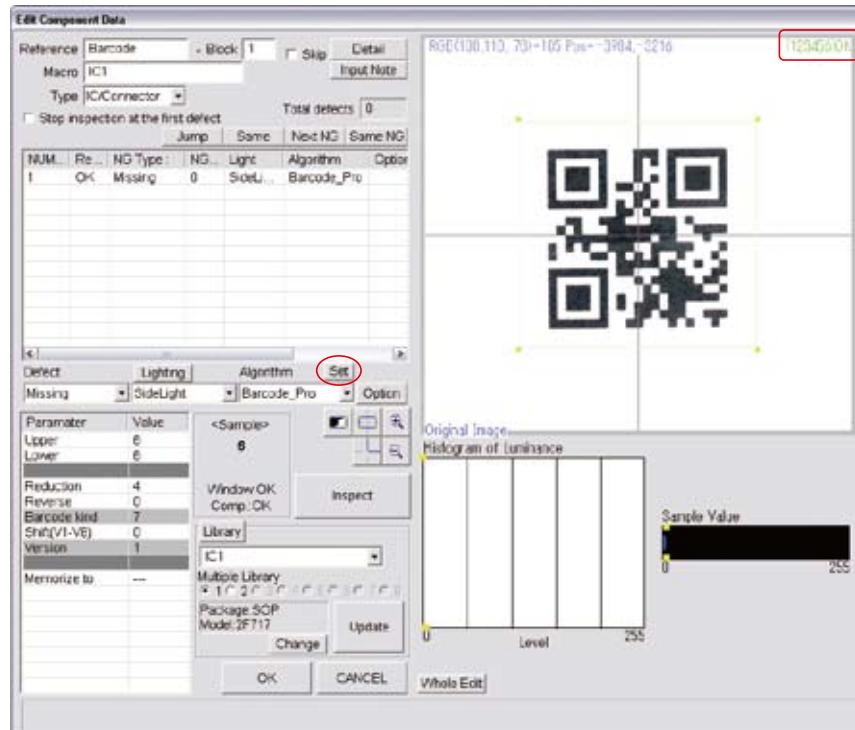

Figure 2-17 Barcode_Pro
Step4: Press **Inspect** and check if the alphanumeric character of the barcode is correctly displayed in the upper right of the window shown in Figure 2-17.